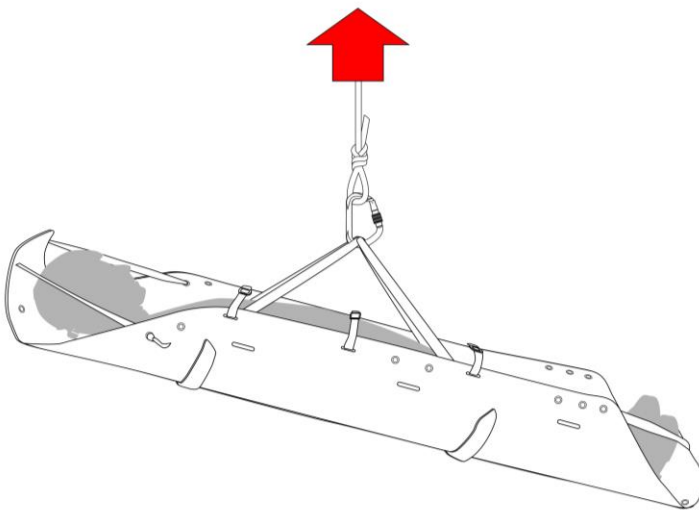

Fig. 4
- lifting by means of the hanging kit using rescue devices (G) - (fig. 4), 1:10 = user load: 150 kg
- helicopter lifting and transport using the hanging kit (G) - (fig. 4), 1:14 = user load: 100 kg